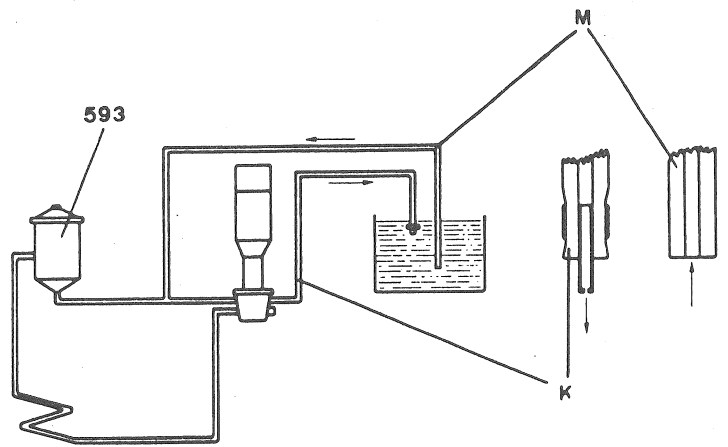

Fig 24
3. Insert the ends of the rubber pipes (M & K) into the can, without removing the diaphragm plug from pipe (K), then pour a small quantity of oil into the filter (593) (fig. 24).